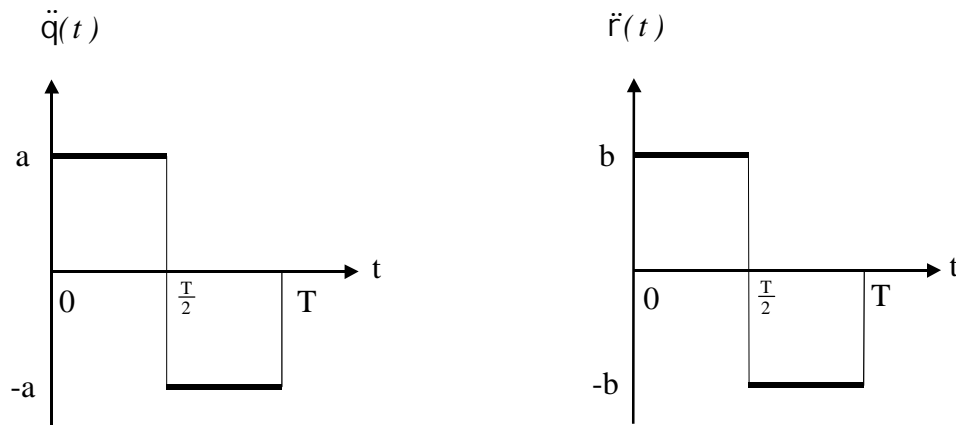

Fig. 9
- b. Assume that the joint motions are performed with constant accelerations as shown in Fig. 9. For  $q_1 = -15$  degrees,  $q_2 = 15$  degrees,  $r_1 = 2$  m,  $r_2 = 2$  m,  $T = 2$  sec, determine the following: